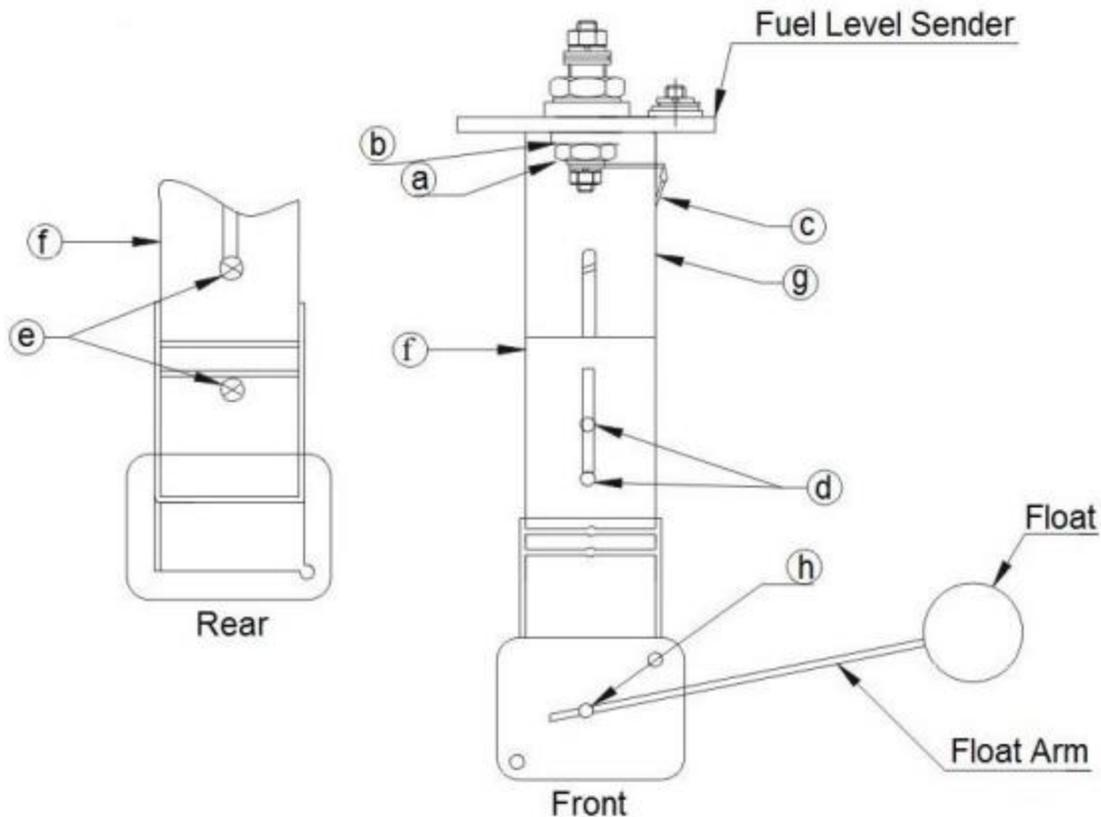

Figure 5 – Fuel Level Sender Diagram
3. Remove two screws "d" and discard (**Figure 5**).